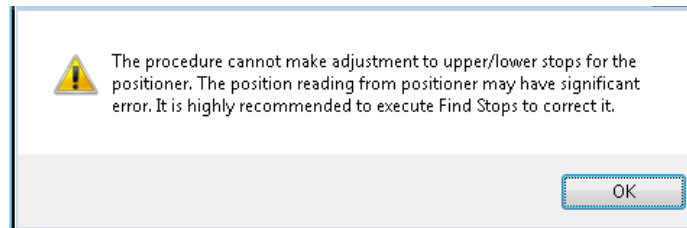

Figure 111 Execute Find Stops Recommendation
- **Yes** if the valve has moved and Figure 111 appears.